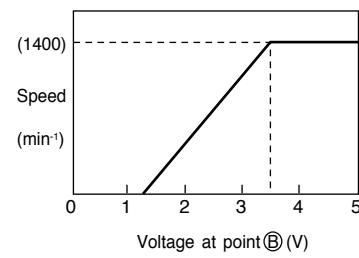

Fig. 7-3
- The pulse is converted into the analog voltage by the R751 and C751 and applied to the fan motor as the speed command voltage. Fig. 7-3 shows the relation between the voltage at the point (B) and the speed. (Some differences will occur due to the condition of the unit.)
- The fan motor outputs the feedback pulse of the speed, which is input into the pin ⑯ on the micro computer. This pulse is equivalent to a frequency of 12/60 speed. (Example:  $1000 \text{ min}^{-1} \times 12/60 = 200 \text{ Hz}$ ) The micro computer monitors the frequency and adjusts the output pulse range of the pin ②4 so as to keep the command speed.